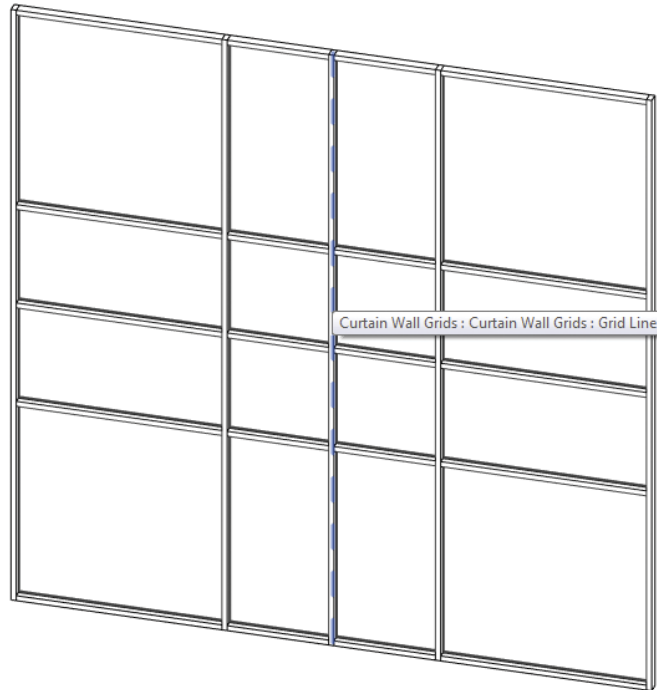

FIGURE 2.19 Mullions and selecting the grid line
6. Move the cursor over one of the vertical mullions and press the Tab key until the curtain grid line is highlighted. The Tab key is important when working with curtain walls. Because there are several elements that potentially share a common edge (walls, panels, grids, and mullions), it is necessary to press and release the Tab key to toggle what will be selected (Figure 2.19).